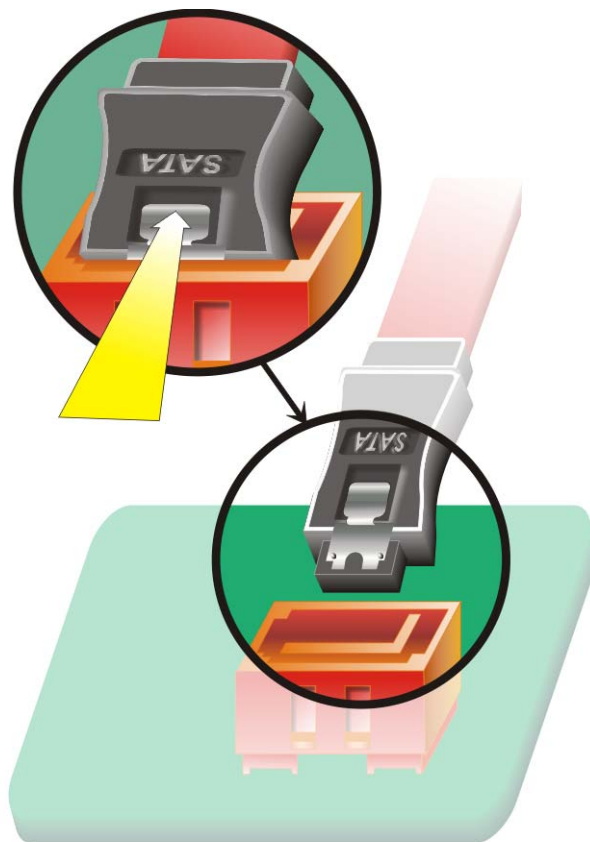

Figure 4-9: SATA Drive Cable Connection
Step 2: Press the clip on the connector at the end of the SATA cable and insert the cable connector into the on-board SATA drive connector (Figure 4-9).